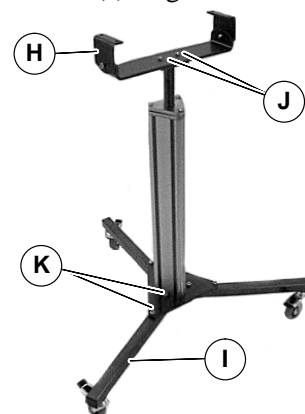

Figure 5
2. Assemble conveyor support (H of Figure 5) to post with M6 screws (J). Tighten screws to 15 Nm.